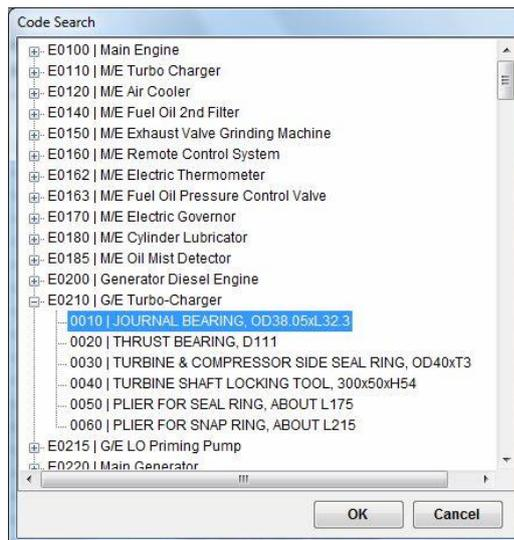

Fig 17.2 Code Search
2. Click [+]mark of equipment and select target spare parts data (Fig. 17-2). Then, select [OK].